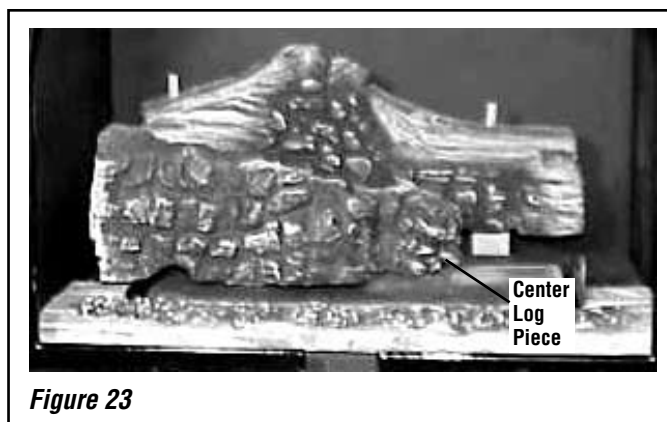

Figure 23
4. Place the center log piece over the corresponding pins next to the front left log as shown in **Figure 23**.